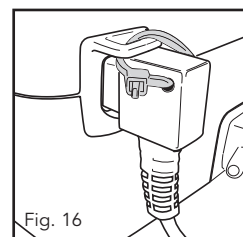

Fig. 16
10. Plug the unit's power cord into the power socket. The cord can then be secured to the socket with a cable tie (Fig. 16 and Fig. 17). This is strongly recommended if the unit is to be used with oxygen.
- Check the power cord is firmly pushed into the power socket on the back of the unit before bringing the output from the oxygen source near the unit. It is strongly recommended that the power cable be attached with a cable tie, as shown in Fig. 16 and Fig. 17.